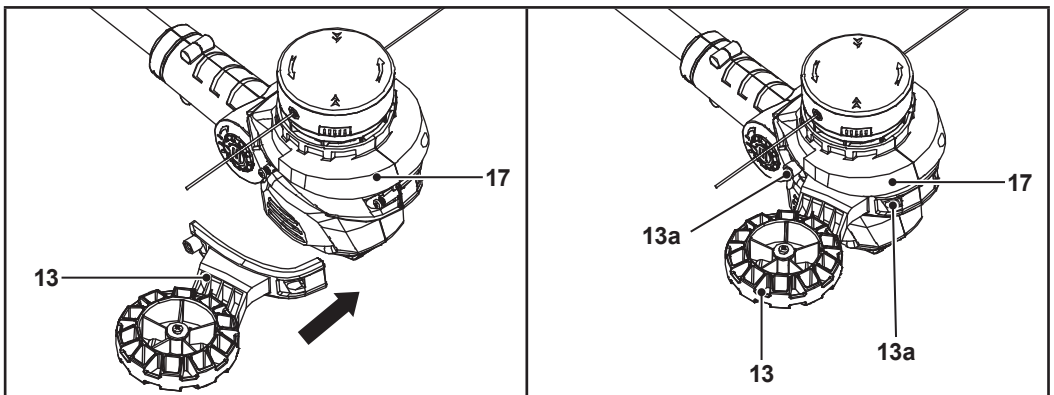

Fig. 3
1. Attach the edger wheel (13) to the cutting head (17) (Fig. 3).
2. Fix the edger wheel (13) with the 2 screws and 2 washers (13a) (Fig. 3).